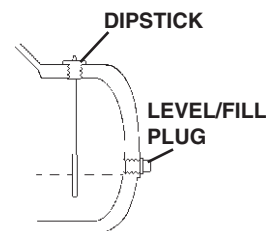

FIGURE 8-1 Some transaxles and transmissions use a dipstick to check the oil level.
2. If equipped with a dipstick, remove the dipstick, wipe it clean, reinsert it making sure it goes completely into the opening, remove it again, and read both sides (Figure 8-1).